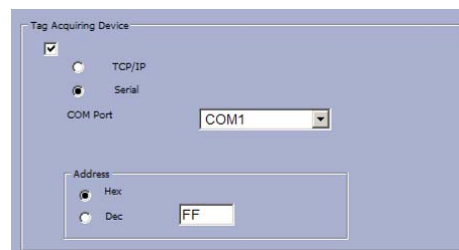

Figure 2-7. General Tab – Tag Acquiring Device Section
4. Set the communication channel to the FHO in Administration → Setup → General tab (see Figure 2-7):